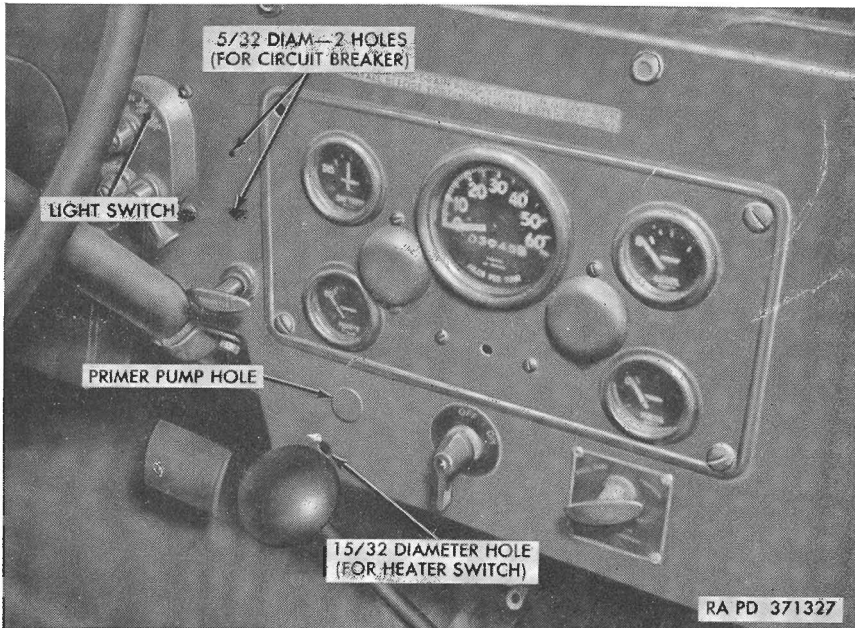

Figure 5. Location of circuit breaker and heater switch mounting holes.
n. Drill two  $\frac{5}{32}$ -inch diameter holes (fig. 5) in dash panel, between light switch and instrument cluster, using circuit breaker (GG) as a template.
o. Drill a  $1\frac{5}{32}$ -inch diameter hole (fig. 5) in dash panel, below and to the left of primer pump hole, for the heater switch.
r. Assemble resistor assembly (F) to the crew compartment side of firewall, using a No. 6 x  $\frac{1}{2}$  tapping screw and lockwasher, in hole drilled in q above. Position resistor assembly horizontally so that free end is toward center of vehicle and drill an additional